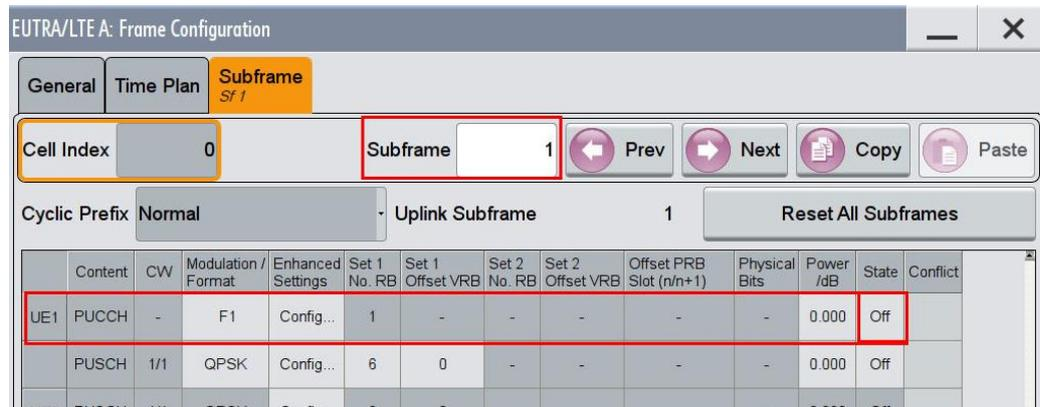

Fig. 3-88: In the second configurable subframe (subframe #1) the PUCCH is not transmitted (state Off)
- Make sure that the PUCCH in the second configurable subframe is not transmitted. (example: subframe 1 **State Off**) (Fig. 3-88)